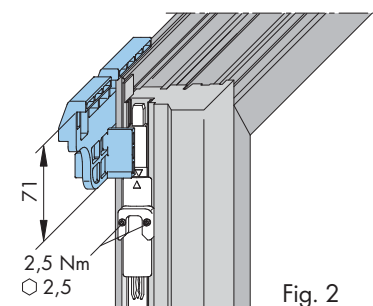

Fig. 2
- H** Position striker VSO **(4/16)** with striker jig LM and fix in place with grub screws M5. (Torque 2.5 ± 0.25 Nm) (Fig. 2).